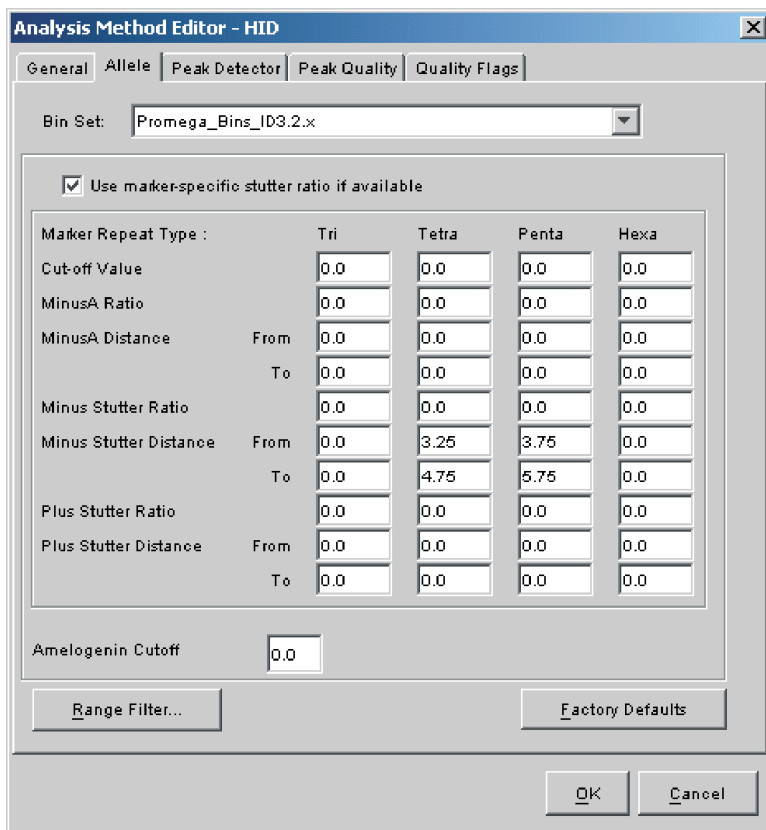

Figure 18. The GeneMapper® ID 'Allele' tab.
6. Select the 'Allele' tab (Figure 18).
9. Enter the values shown in Figure 18 for proper filtering of stutter peaks when using the PowerPlex® 16 HS System. For an explanation of the proper usage and effects of these settings, refer to the Applied Biosystems user bulletin titled "Installation Procedures and New Features for GeneMapper ID Software 3.2".